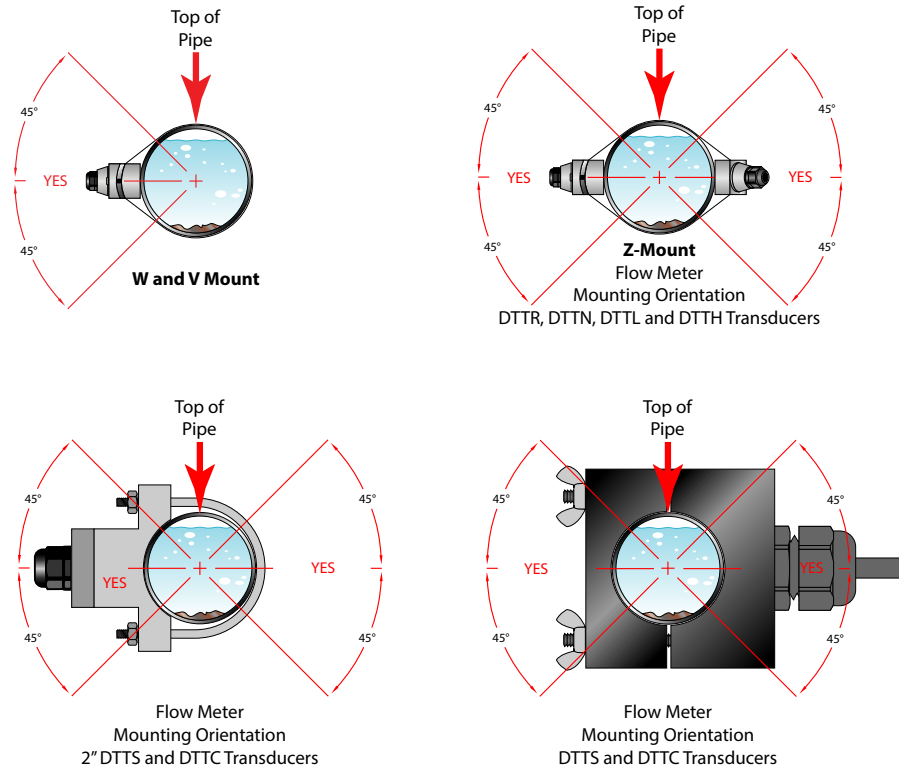

Figure 9: Transducer orientation for horizontal pipes
2. Orient and space the DTTR, DTTN, DTTL and DTTH transducers on the pipe to provide optimum reliability and performance. On horizontal pipes, when Z-Mount is required, mount the transducers 180 radial degrees from one another and at least 45 degrees from the top-dead-center and bottom-dead-center of the pipe. See Figure 9. Also see “Z-Mount Configuration” on page 22. On vertical pipes, the orientation is not critical.
3. Crease the paper at the fold line. Mark the crease. Place a mark on the pipe where one of the transducers will be located. See *Figure 9* for acceptable radial orientations. Wrap the template back around the pipe, placing the beginning of the paper and one corner in the location of the mark. Move to the other side of the pipe and mark the pipe at the ends of the crease. Measure from the end of the crease (directly across the pipe from the first transducer location) the dimension derived in *"Select a Mounting Configuration"* on page 17. Mark this location on the pipe.